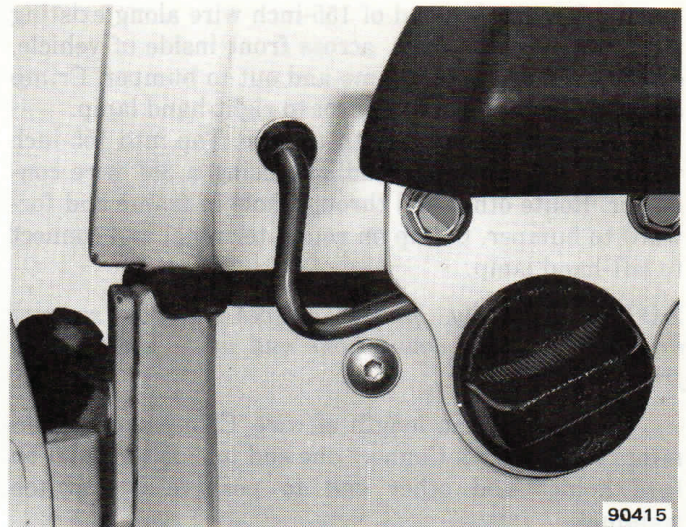

Fig. 11-5 Plastic Sleeve Secured at Bottom of Windshield Frame
(7) Snag wire through 1/2-inch hole located at vicinity of left-hand lamp and pull out a workable loop of wire. Cut wire loop and a 4-inch length of wire. Crimp a round terminal onto one end of wire and insert it into lamp connector. Join remaining three wire ends by crimping them into 3-way butt connector. Take up slack in wire to allow lamp connector to be situated inside bar and install strain relief bushing around connector wire and in 1/2-inch hole.
(8) Insert end of 95-inch wire through 8-inch plastic insulation sleeve and route wire into top and out bottom windshield frame hole. Arrange sleeve so that it is positioned between windshield frame and bar. Install a strain relief bushing around wire at each end of insulation sleeve and in 1/2-inch holes. Insert end of 95-inch wire through 6-inch plastic insulation sleeve and install strain relief bushing around wire and end of insulation sleeve and in bottom windshield 1/2-inch hole (fig. 11-5).